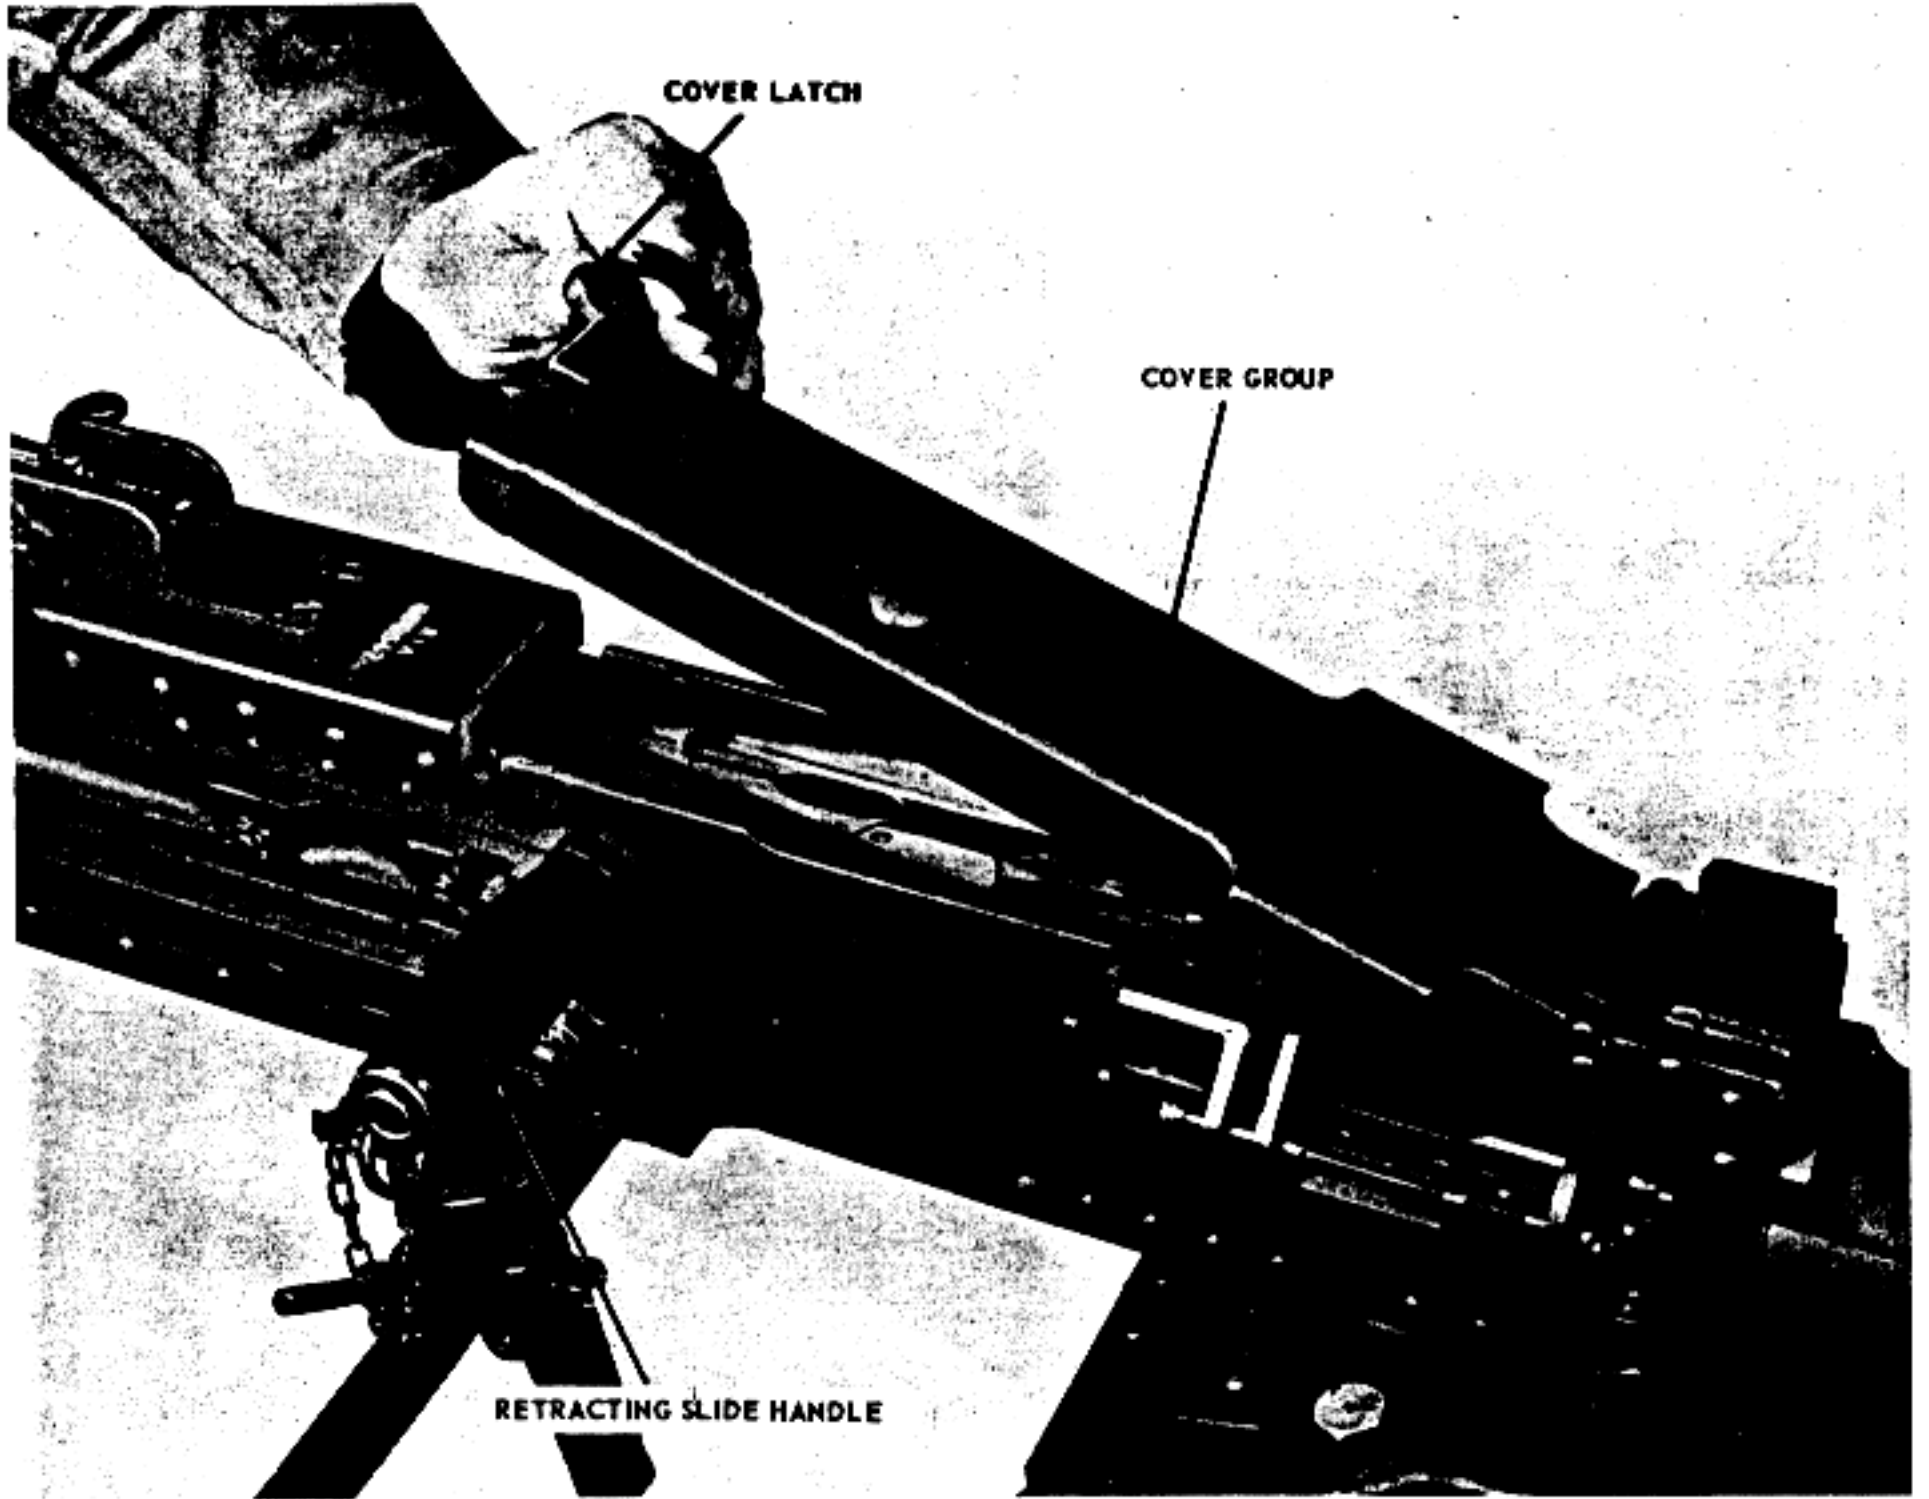
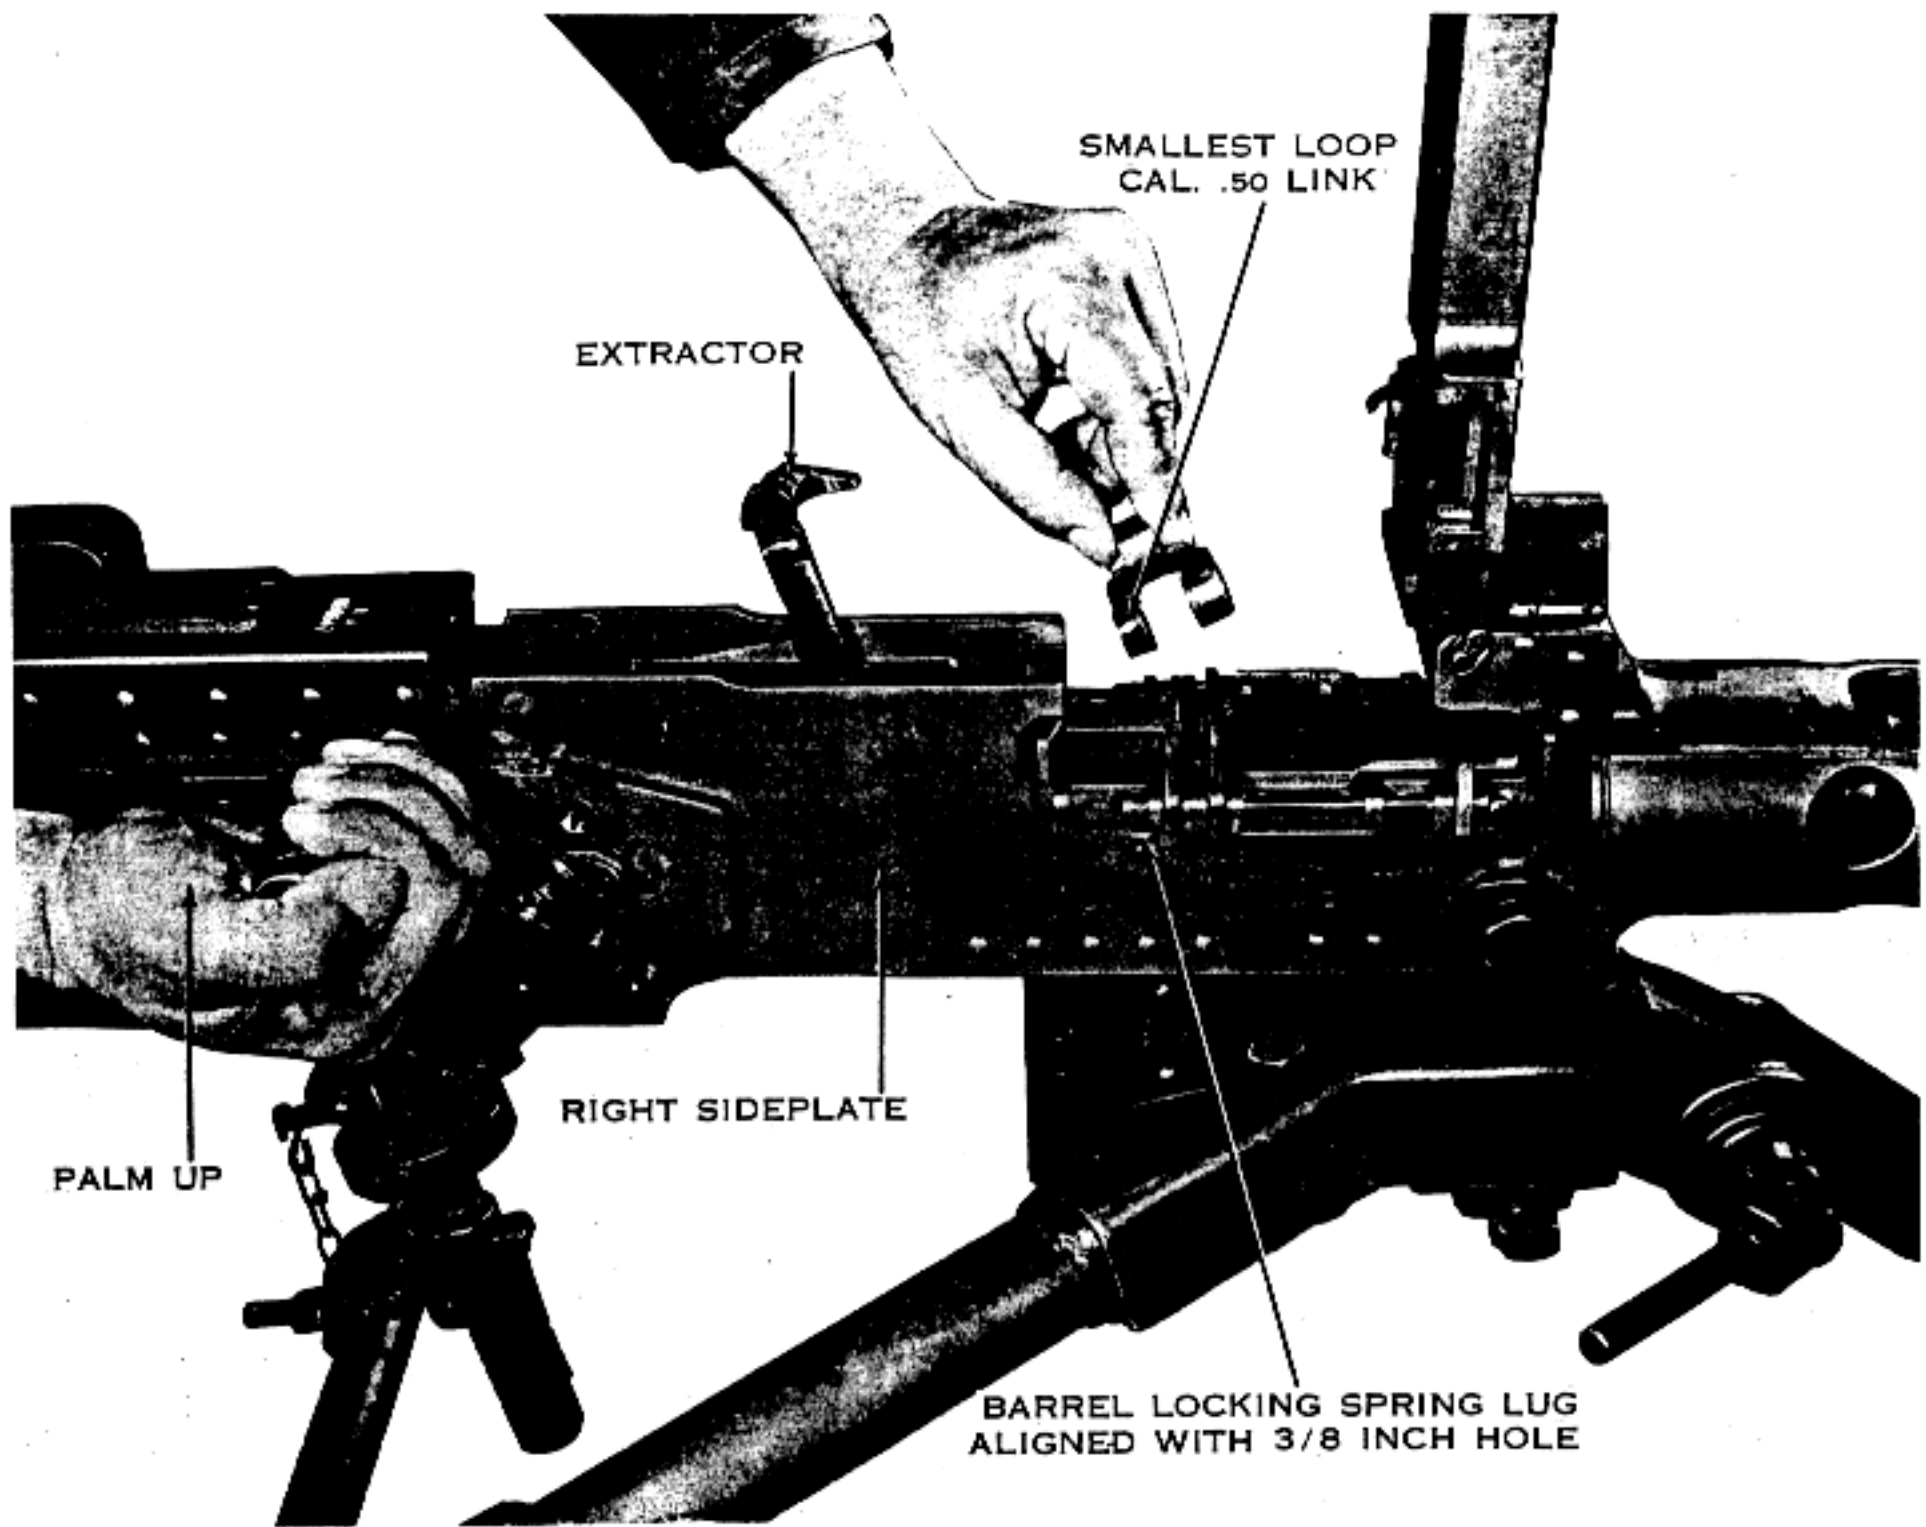

Figure 4. Raising the cover.
Figure 5. Alining the lug on the barrel locking spring with the $\frac{3}{8}$ -inch hole in the right side plate.
b. *Barrel group.* Turn the cover latch and raise the cover group (fig 4). Grasp the retracting slide handle with the right hand, palm up, and pull the recoiling parts to the rear until the lug on the barrel locking spring aligns with the $\frac{5}{8}$ -inch hole in the right sideplate of the receiver (just below the feedway exit). The barrel can be turned only when the lug is aligned with the $\frac{5}{8}$ -inch hole. Place the smallest loop of a caliber .50 link, or suitable spacer, between the trunnion block and the barrel extension (fig 5 and 6). This holds the barrel locking spring lug aligned with the $\frac{5}{8}$ -inch hole in the right sideplate. Unscrew the barrel from the receiver (fig 7). Be careful not to damage the threads or barrel locking notches when setting the barrel down. Pull back slightly on the retracting slide handle and remove the link or spacer from the receiver.